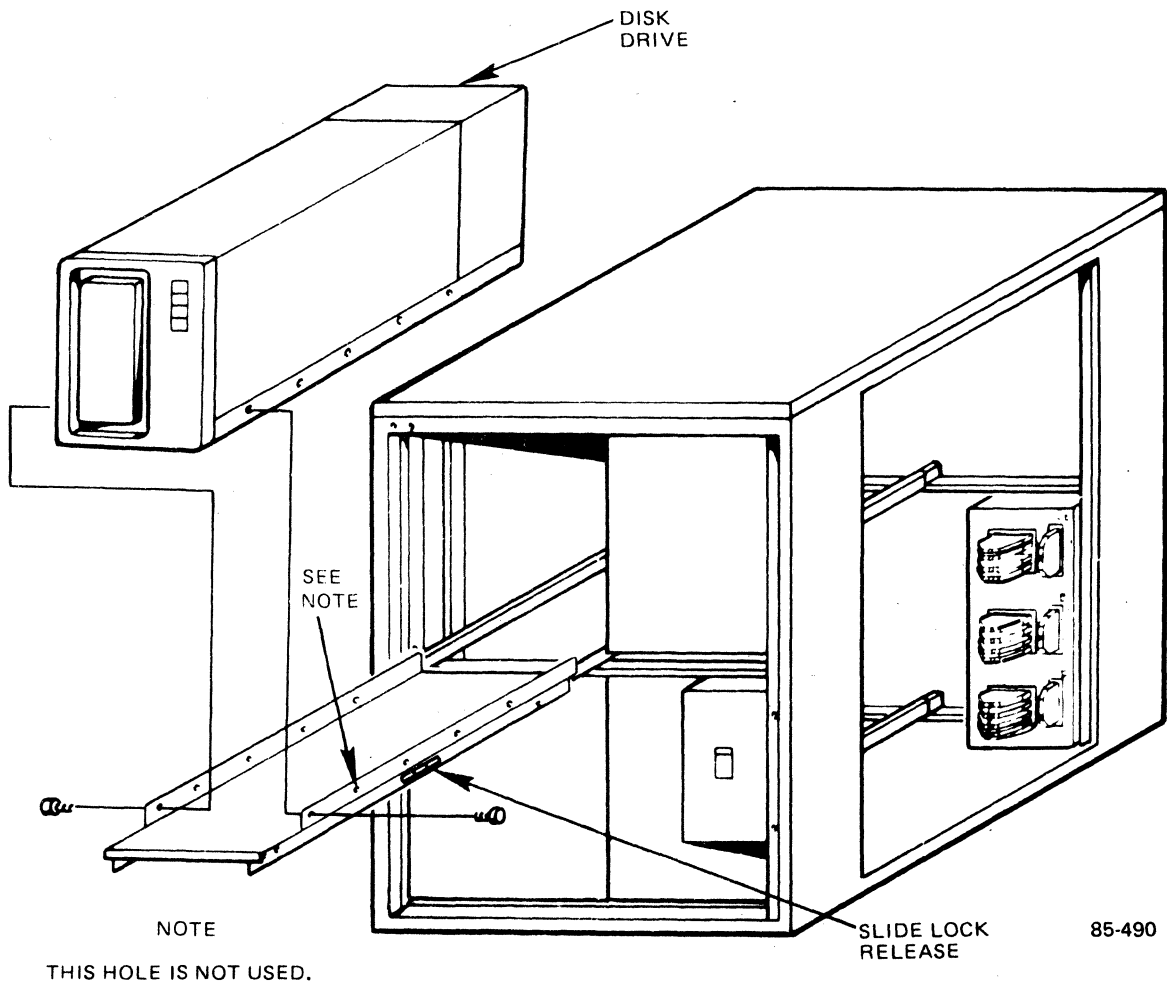

Figure 2-13. Disk Drive Installation
Ensure the holes are lined up as shown in Figure 2-13.
13. Slide the disk drive into the cabinet by lifting the slide lock release (see Figure 2-13) on each side and pushing the disk drive fully into the cabinet.